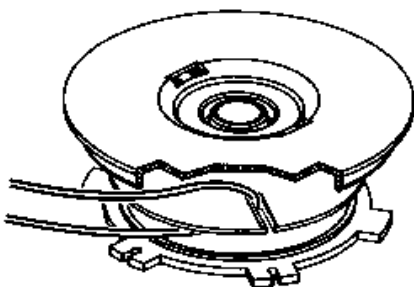

Fig. 14
4. Cut a 14' (4.3 m) length of replacement trimming line. Double it over, using 0.080 (or 2.05 mm) trimming line. Place the looped center in one of the slots in the spool divider (Fig. 14).